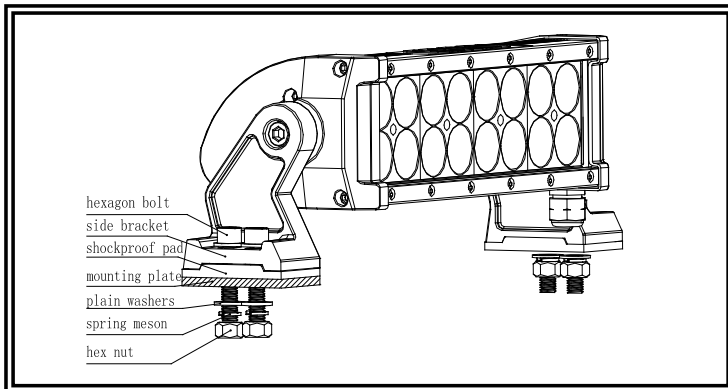

Figure 2
3. Put the shockproof pad on the mounting plate, then feed the hexagon bolt through the side of the bracket. Put the plain washers and locking spring washer on the bolt, then fasten it. See Figure 2.